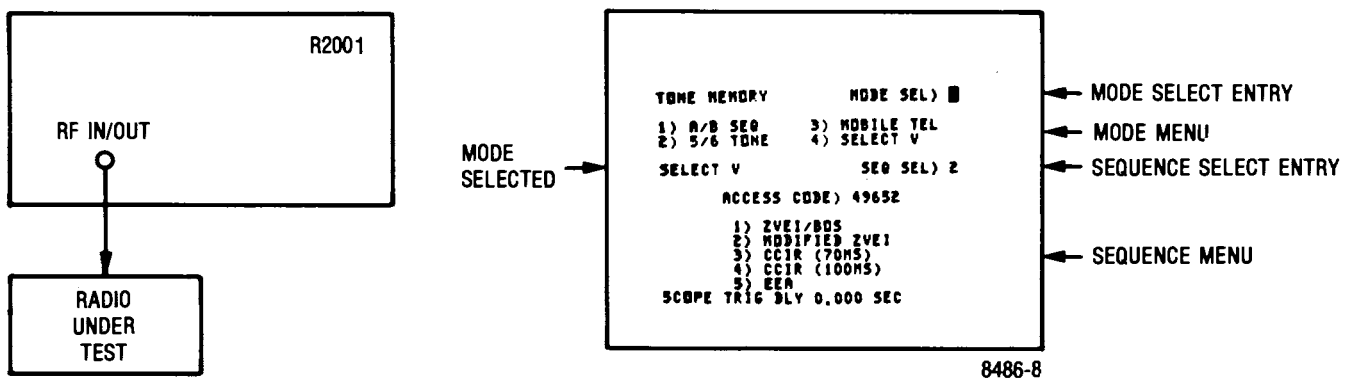

Figure 4-12. Test Setup for Select V Test with CRT Display
e. Test Select V decode function (Figure 4-12).
7. Connect the system to be tested as shown in figure 4-12 and set the MODULATION switch as desired to test the Select V decoder.